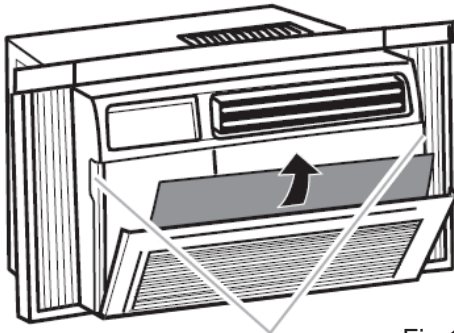

Fig.14
1. Remove the filter by pulling down on the indents of the filter door on the front of the unit. (See FIG. 14)